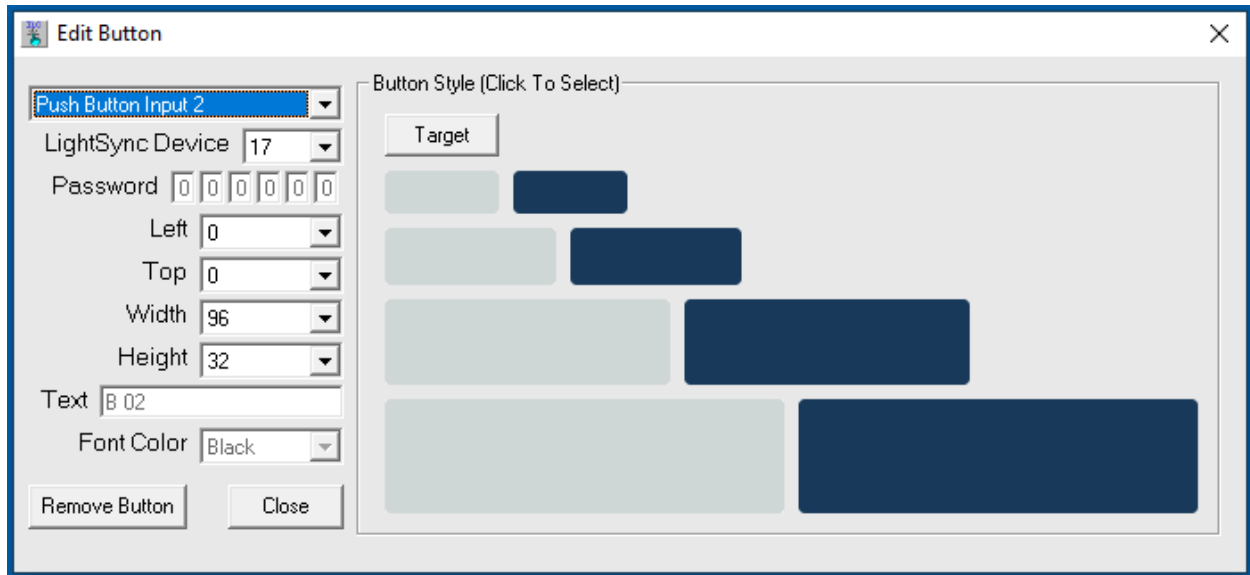

Figure 4 Edit Button Screen
8. Select one of the 8 buttons from the library available on the Edit Button screen as shown in Figure 4. You may also select the Target control button option, which is a button without graphics (Invisible button) and can be made to any size. With this option, custom button graphics can be incorporated into the background Bitmap to give your button any look desired. This can also be used on a screen where the entire screen is to be used as a single navigation button (From a HOME company logo screen, to the First control screen)